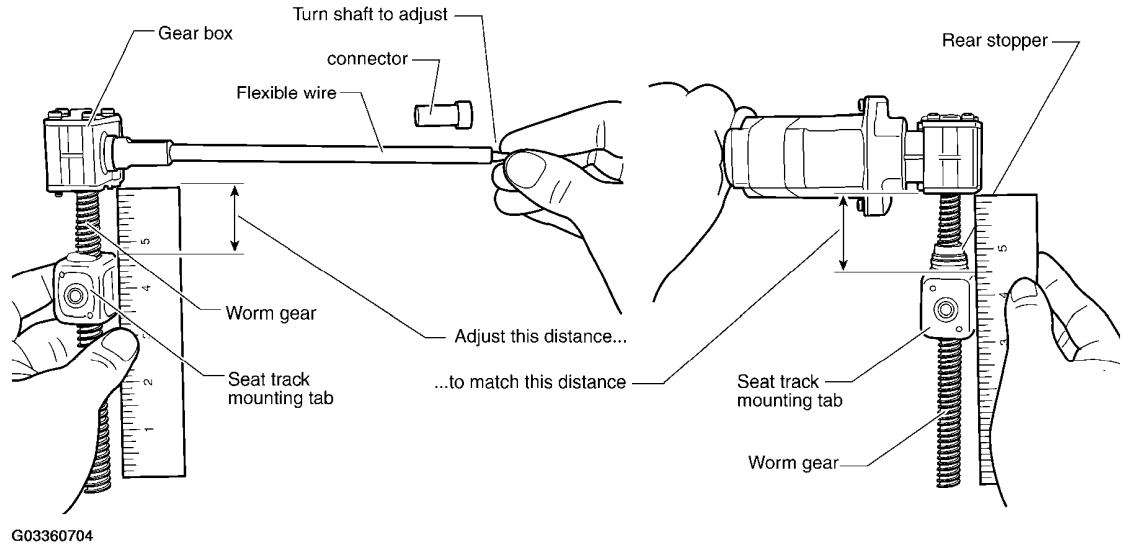

Fig. 9: Proper Positioning Of Seat Track Mounting Tab
18. Make sure the new seat track mounting tab is touching the rear stopper, with the threaded shaft facing up (see Fig. 9).
- Measure the distance between the gear box and the mounting tab (see Fig. 9).
- Measure and adjust the other seat track mounting tab to the same distance (see Fig. 9).